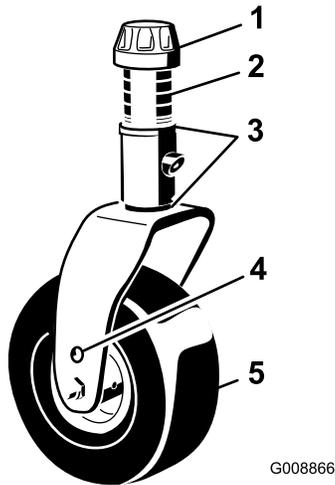

Figure 141
1. Remove the tensioning cap from the caster-spindle shaft and slide the spindle out of the caster arm (Figure 141).
Remove the tensioning cap and caster fork (Figure 141).